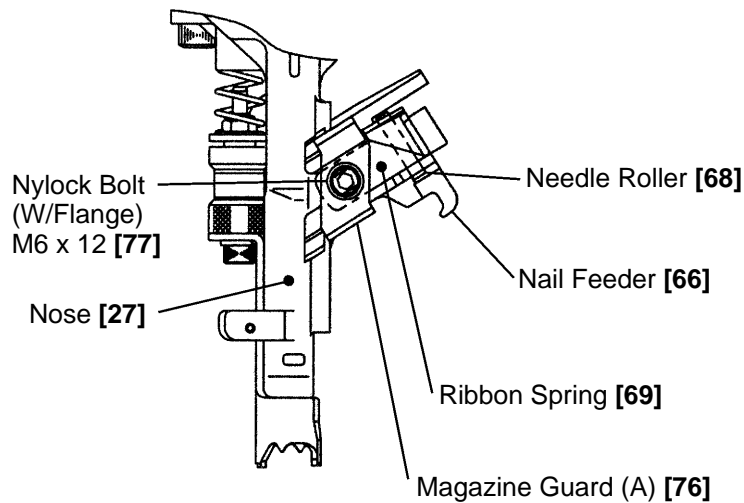

Fig. 10 Mounting of the Nail Feeder and Ribbon Spring
- Before mounting the magazine section to the Nose [27] and the Body Ass'y [22], temporarily secure the Nail Feeder [66], Ribbon Spring [69], Needle Roller [68] and Magazine Guard (A) [76] without tightening the bolts completely as shown in Fig. 10.